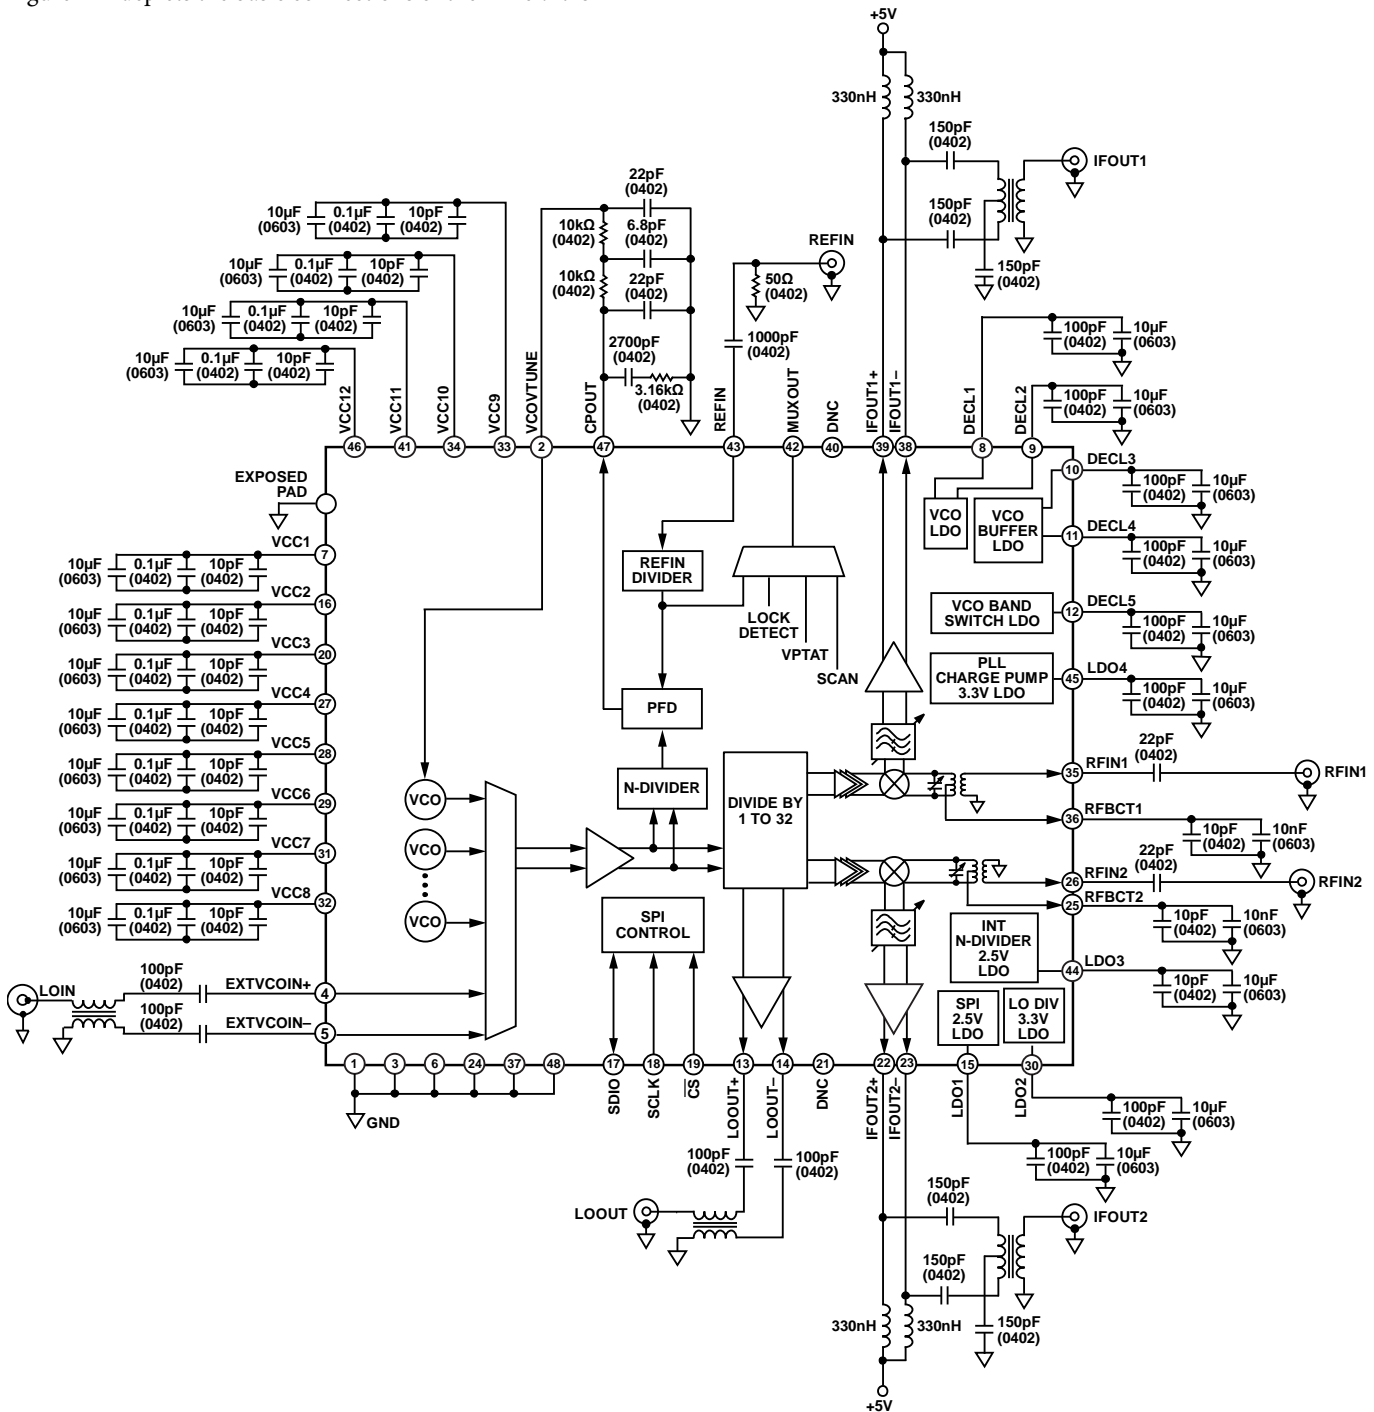

Figure 111. Basic Connections Diagram
The ADRF6614 mixer is designed to downconvert radio frequencies (RF) primarily between 700 MHz and 3000 MHz to lower intermediate frequencies (IF) between 40 MHz to 500 MHz. Figure 111 depicts the basic connections of the mixer. It is